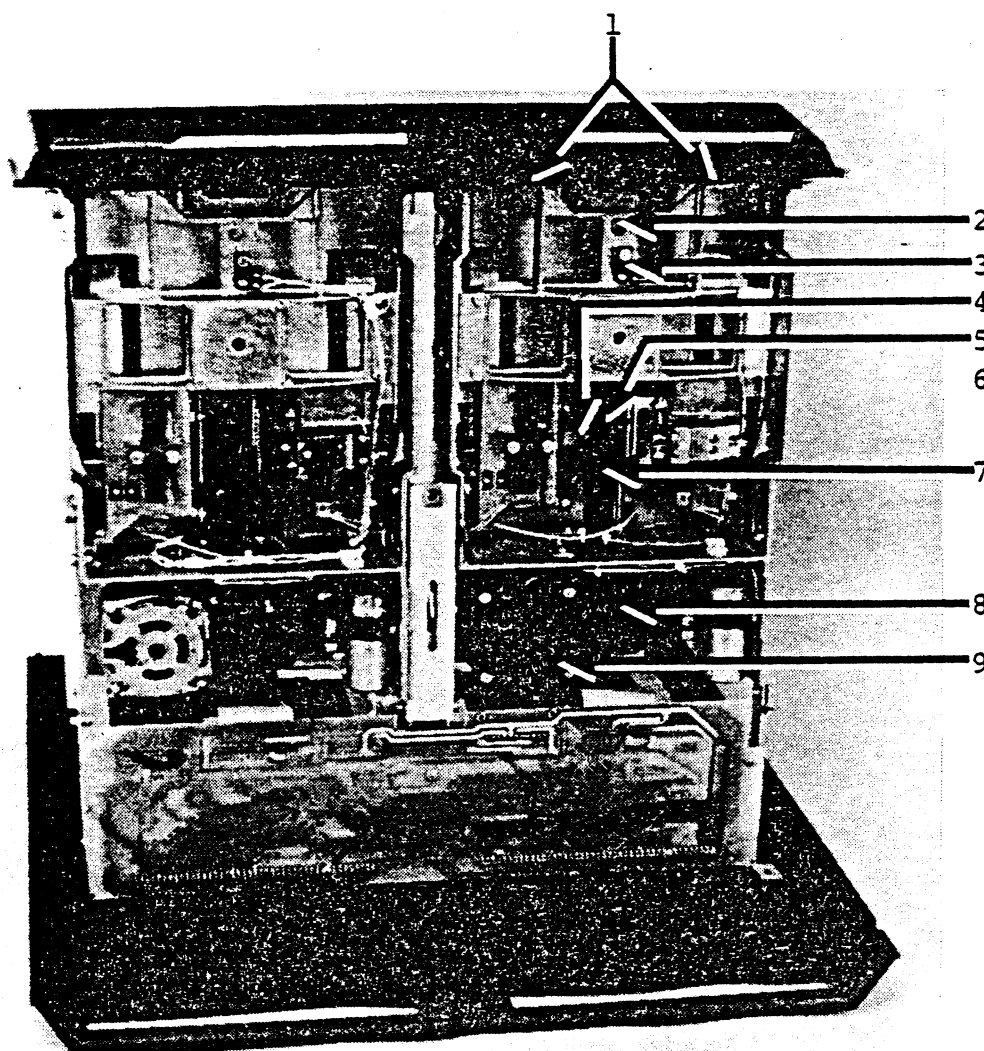

Figure 4-8. Dual Disk Drive Component Locations-
- a. Insert the shoulder screw (tool P/N 503777-0) through the adjustment hole in the cartridge guide and screw completely into the base casting (hand tight). See Figure 4-8.
- d. Tighten two screws holding the cartridge guide to the latch plate (Figure 4-8).